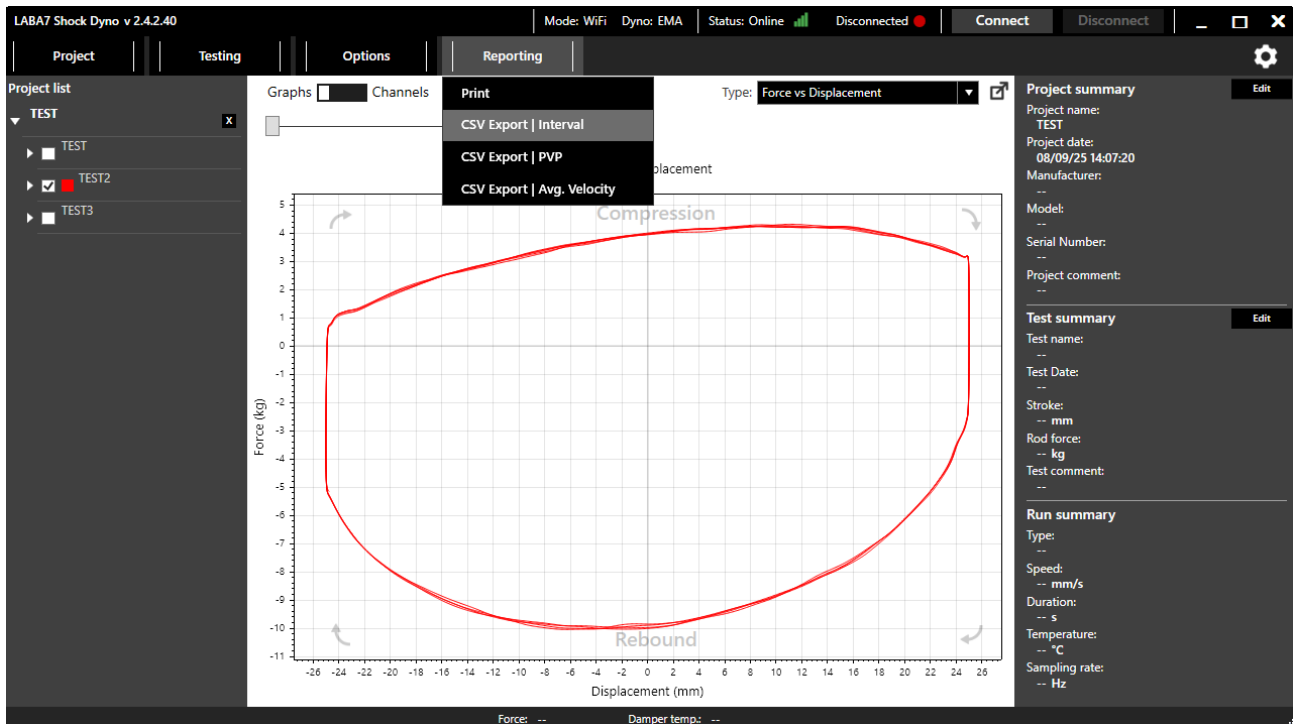

Figure 66
2. Press reporting (Figure 66).
2. Press “reporting” (Figure 66).